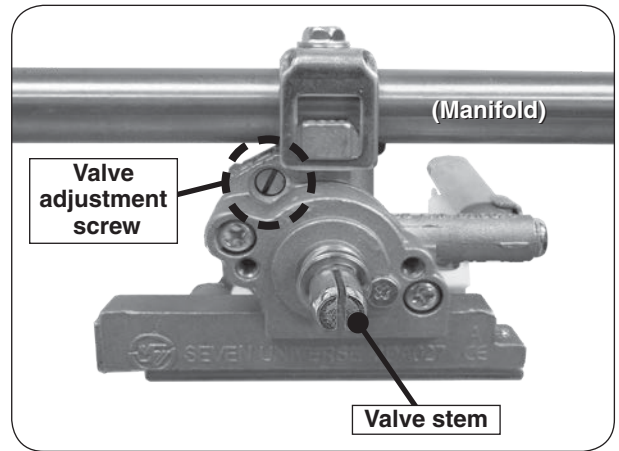

Fig. 30-1 Valve adjustment screw location
5. Locate the FLATHEAD adjustment screw found above the valve stem and below the manifold (see Fig. 30-1).